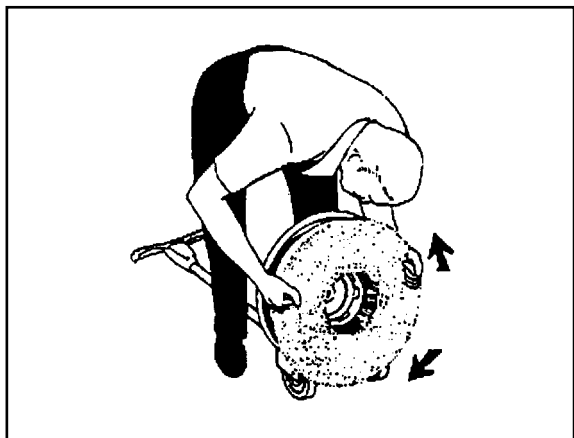

Figure 4
4. Put one foot on each side of the machine. See figure 4.
4. "Cabalgando" sobre la máquina (Véase fig. 4)
4. En "chevauchant" la machine (Voir fig. 4)